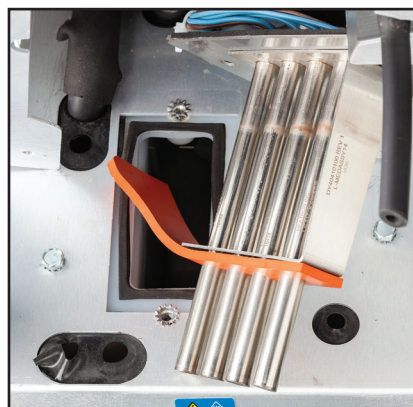

Fig 8-52 Install heater with flow deflector towards level sensor (step 5)
5. Install the new heater assembly into the tank by first directing the orange flow deflector towards the level sensor (see figure 8-52).